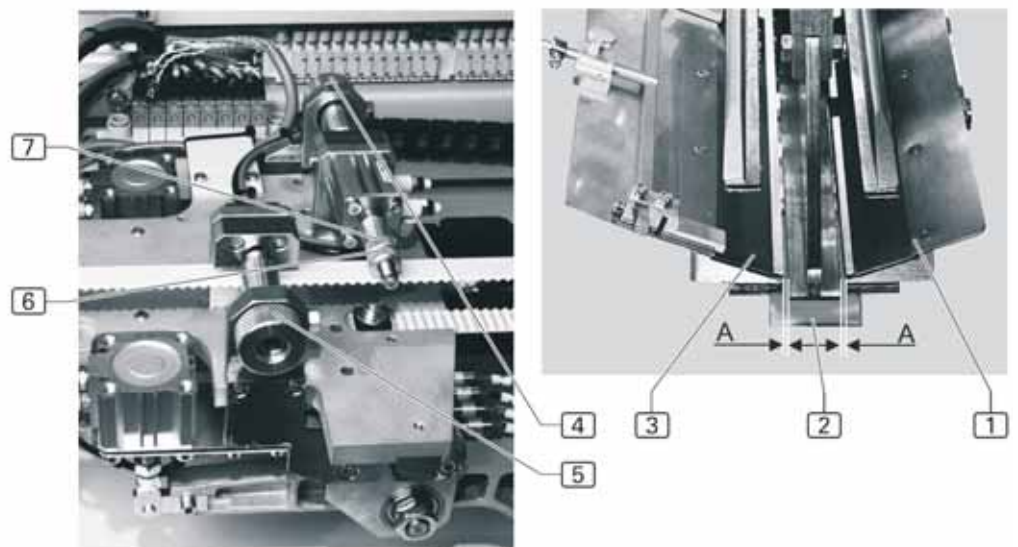

fig. 16
3. **fig. 16:** In the case of normal material thicknesses the distance A between the inner edges of feed plates [1] and [3] of the clamp and the respective outer edge of the folder base [2] should be 1.5 mm each on the right and left. On very thick materials the distance must be increased so that the folder can fold the material.